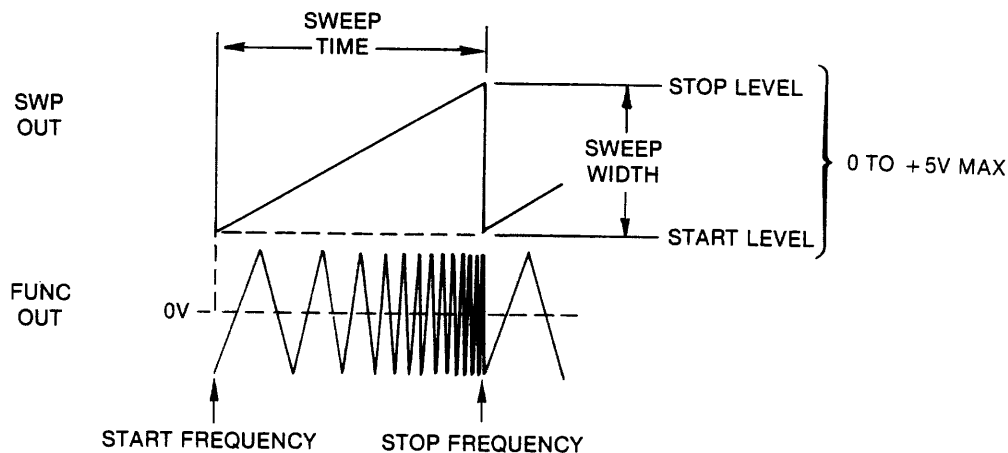

Figure 3-3. Sweep Time and Width
- 5 **Sweep Set Control** The Swp Set control, the inner knob of the concentric pair, sets the stop frequency in the sweep modes (see figure 3-3).
12 Sweep Time Switch The Sweep time button, when pushed, steps through the sweep time (.01, .1, 1, and 10 seconds). Sweep time is indicated by an annunciator arrow on the display. Frequency of the internal sweep ramp, the sweep rate, is governed by the Sweep time switch **12** (see figure 3-3).
Set as desired. Limit offset to prevent clipping (see figure 3-3).